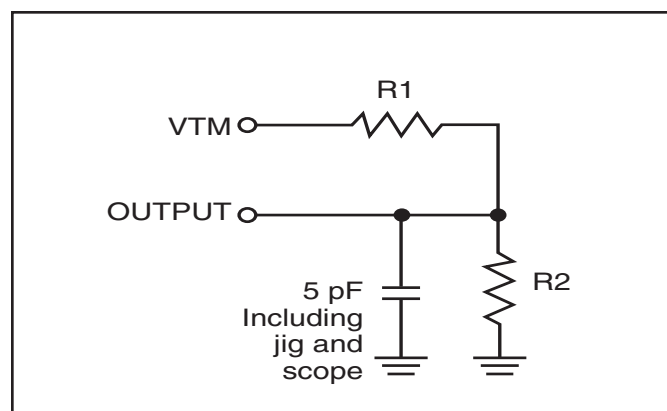

Figure 2
2. Tested with the load in Figure 2. Transition is measured  $\pm 100$  mV from steady-state voltage. Not 100% tested.
3. Tested with the load in Figure 2. Transition is measured  $\pm 100$  mV from steady-state voltage. Not 100% tested.